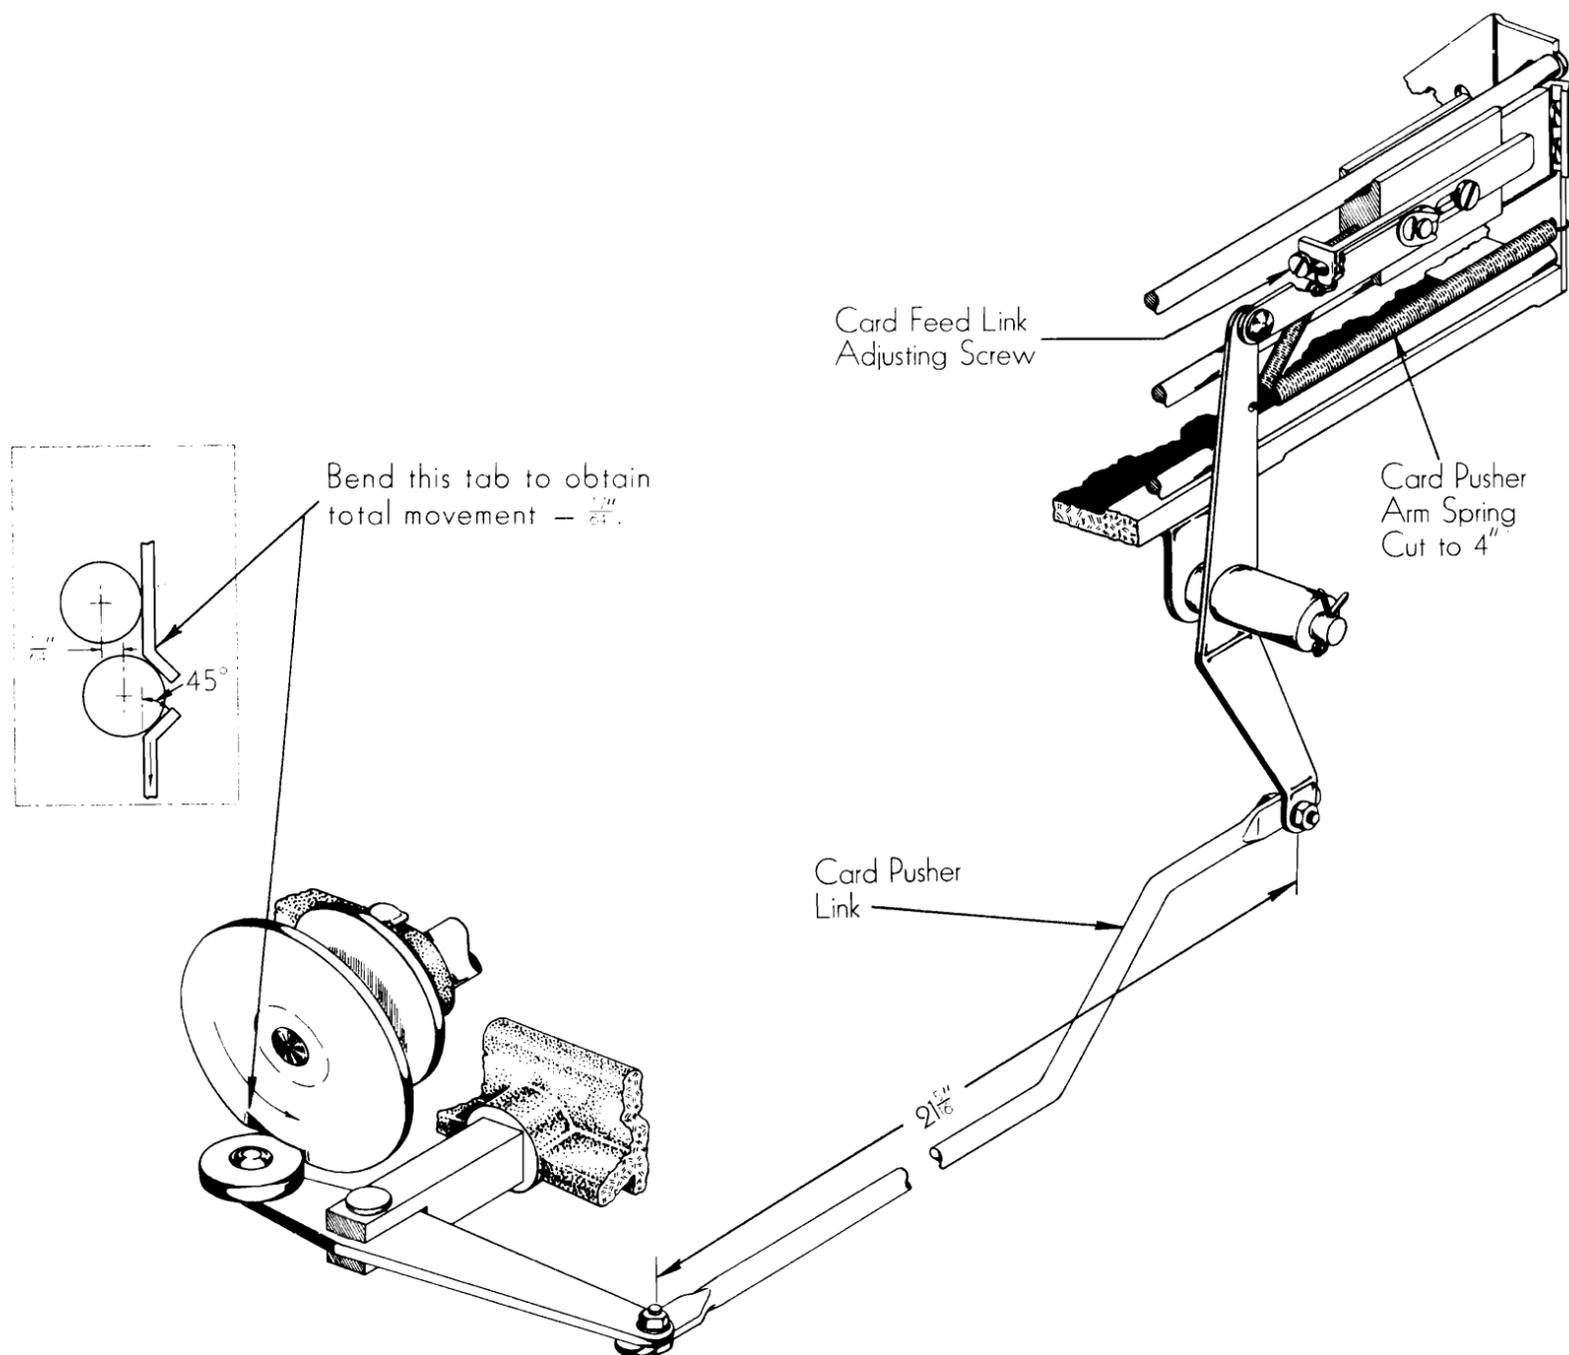

FIGURE 22
Card Feed Adjustments—Figure 22
5. The card feed cam roller should have a total movement of $\frac{17}{64}$ " as shown in Figure 22. The front tab of the cam (latched position) should stand at an angle of 45°. The rear tab or operating tab may be formed to permit the roller to drop the required $\frac{17}{64}$ " when roller is fully seated.
The operating length of this rod, straight line between centers of holes, should be approximately $21\frac{5}{16}$ ". See Figure 22. This dimension should be checked if proper adjustment is not obtained by the card feed link adjusting screw.